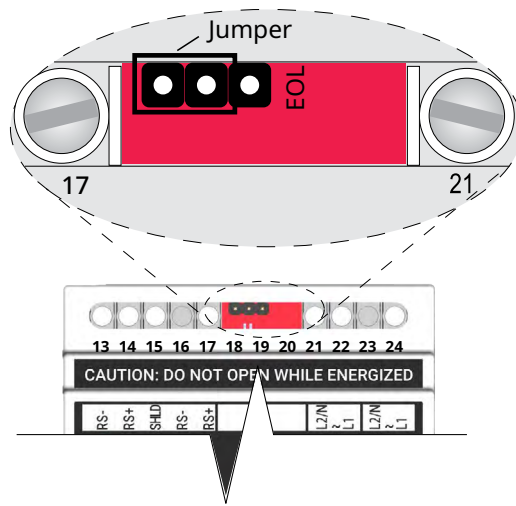

Figure 4b. End of Line Jumper for all other TTSIM's
- On all other TTSIM's in the circuit, place the jumper as shown in Figure 4b.